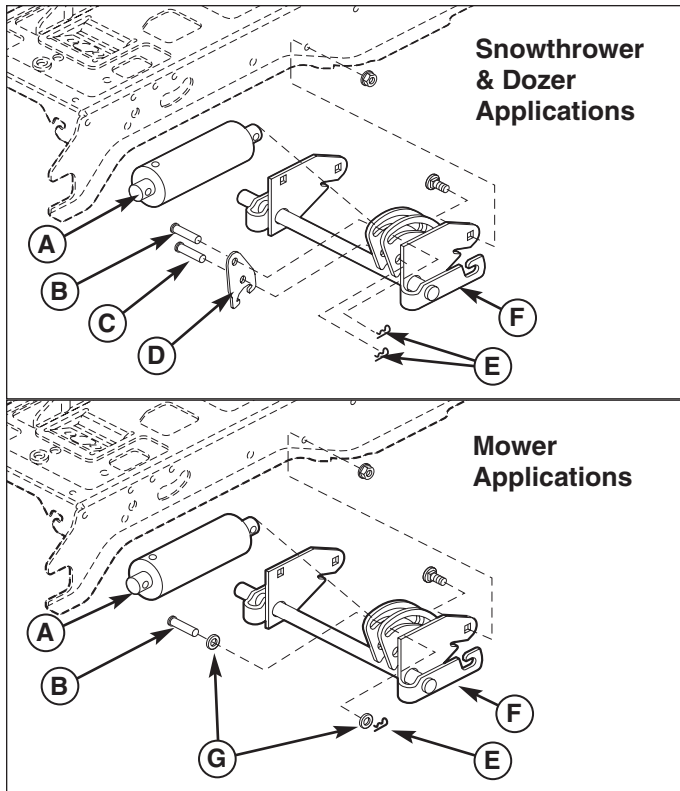

Figure 36. Lift Lock Plate - Hydraulic Lift Models
When using a snowthrower or dozer, the downward pressure lock plate (D, Figure 36) and an additional pin (C) is installed. These parts are included with the attachment. Note that the washers (G) are not used with the lock plate.